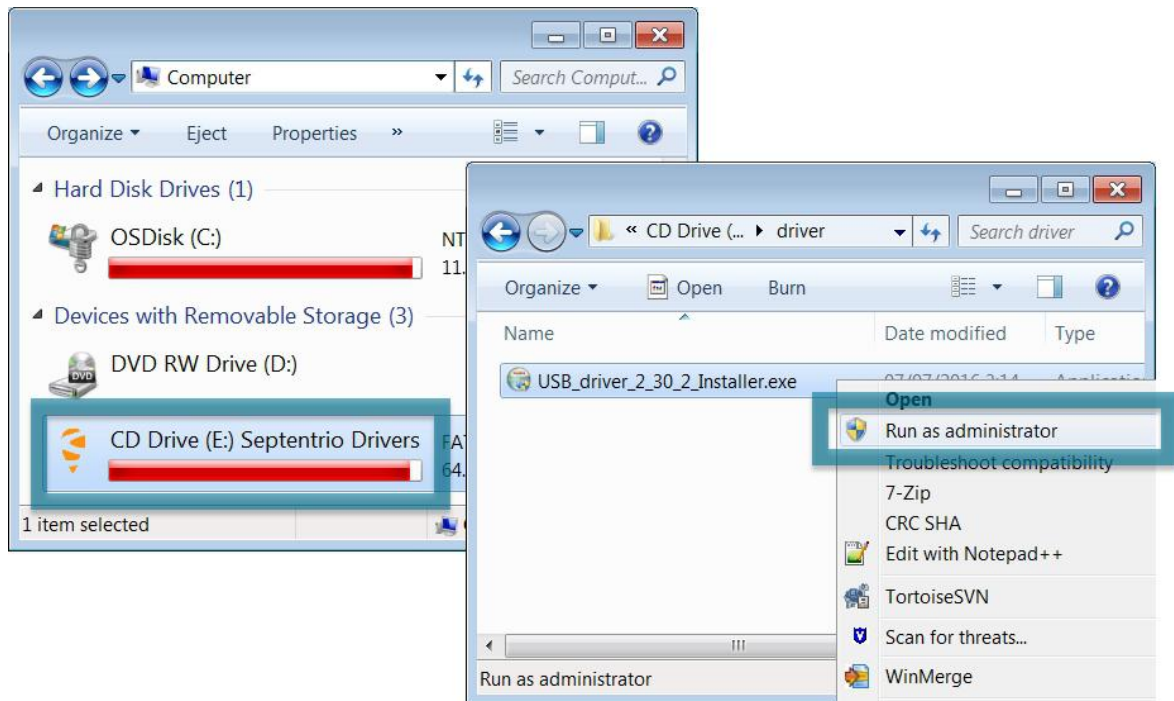

Figure 6-4: Run the executable driver installation file in the folder 'driver'
- In the folder 'driver', you will find an executable driver file. Right click on this file and select 'Run as administrator' as shown in Figure 6-4.